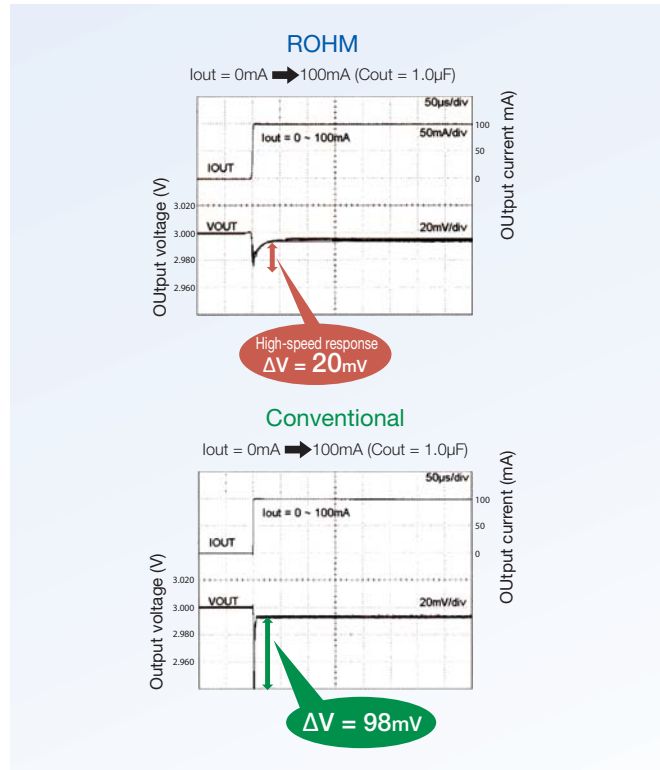

Figure 10. High-speed load regulation reduces load response from nearly 100 mV to only 20 mV with an output step-change from 0 to 100 mA.
**High speed load response [TA2 series]** LDOs reduce the fast load response to just 20 mV while transitioning from 0 to 100 mA output current compared to conventional regulator values of up to 98 mV as shown in Figure 10. Offered in the ultra compact